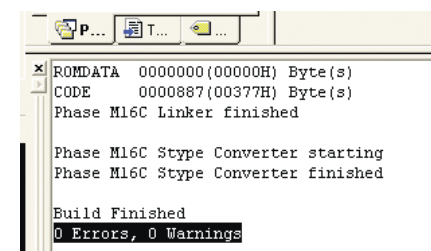

Figure 4. HEW with the skptest62p project compiled
- g) Click the “Build” icon, , to compile, assemble and link the project. HEW will look similar to Figure 4.